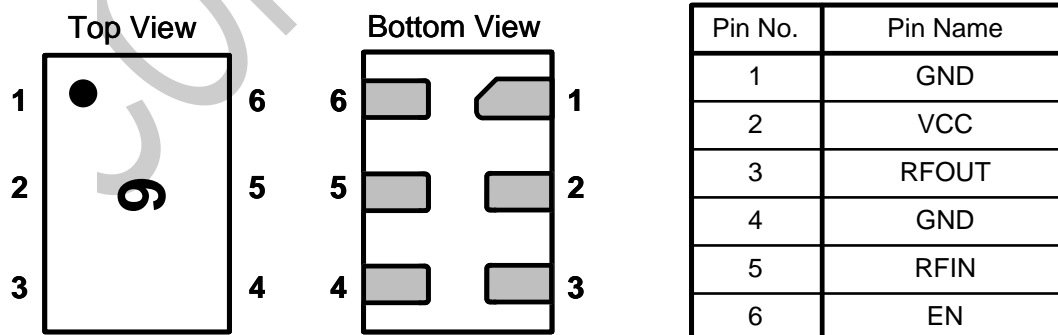

Figure 2. SW7126D Pin Configuration and Marking
1. The SW7126D requires only one external inductor for input matching. If the device/phone manufacturers implement very good power supply filtering on their boards, the bypass capacitor mentioned in this application circuit may be optional. With the capacitor, we can get better performance like a little higher gain etc. The value is optimized for the best gain, noise figure, return loss performance. Typical value of inductor is 9.1nH, capacitor is 1nF. For schematics see *Figure2*.